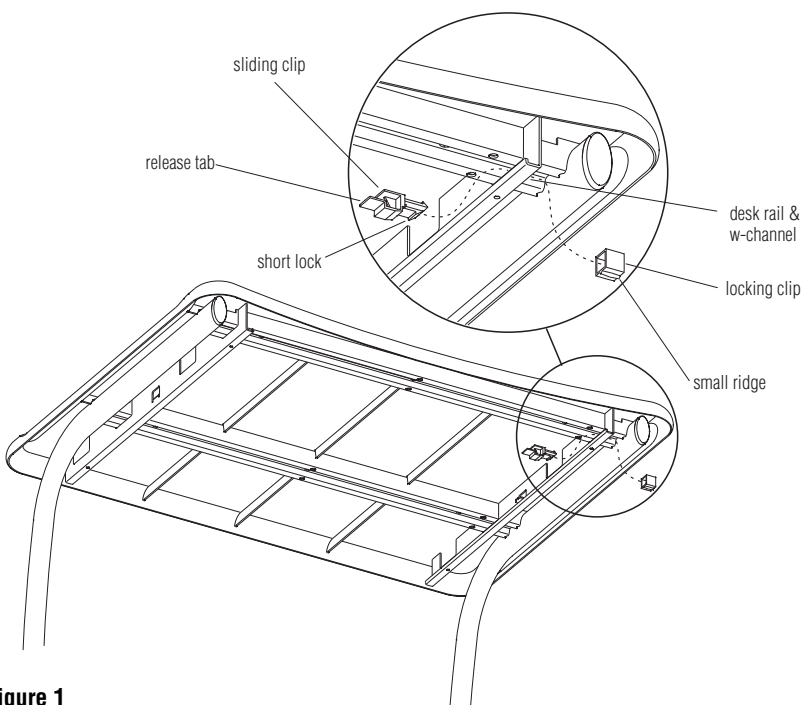
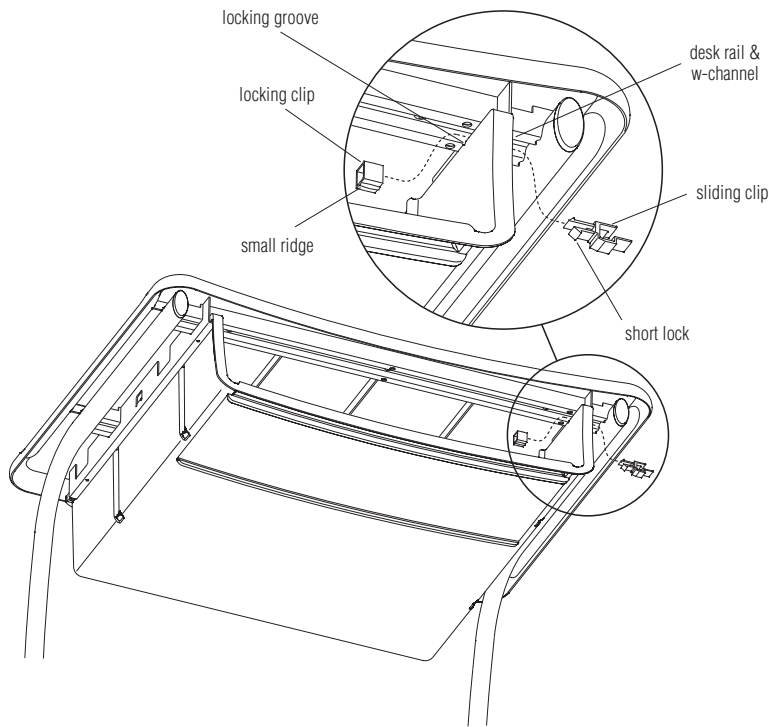

Figure 1
Figure 3
Important: Orient the small ridge of the locking clip and the short lock of the sliding clip toward the floor during assembly (Figure 1 & Figure 3).
1. For sliding mode, clips should be installed into desk prior to inserting book box. As noted above, orient the sliding clip to the inside of the desk and insert the sliding clip into the desk rail at the w-channel location. Attach the locking clip to the sliding clip at the outside location of the desk rail and w-channel. Make sure the pieces snap together (Figure 1).
4. To remove the book box, pull it out until it stops. Push up on the release tabs of the installed sliding clips and continue to slide the book box out (Figure 1).
1. First insert the book box into the desk. As illustrated, orient the sliding clip with the short lock down, and positioned at the outside desk rail and w-channel location (Figure 3).
2. From inside the book box, at the w-channel position, locate the locking groove of the book box. At that location, with the small ridge down, insert the locking clip into the desk rail and w-channel location. Snap the locking clip into the sliding clip to secure (Figure 3).